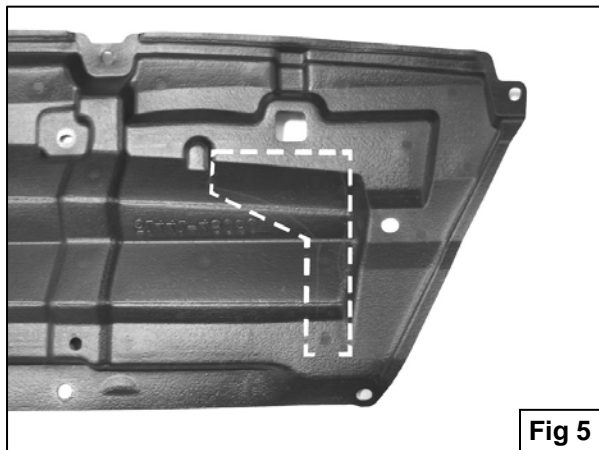

Fig 5
7. Once you have partially mounted driver and passenger side Brackets. Position factory plastic rocker guard back to its mounting location and trace the outside on the Mounting Bracket and the mounting location of the Bolt Plates. Use a sharp knife to cut out the trace area for the Mounting Brackets and use a drill with a ½" drill bit to drill out the mounting location for the Bolt Plates on both sides (**Figure 5**).